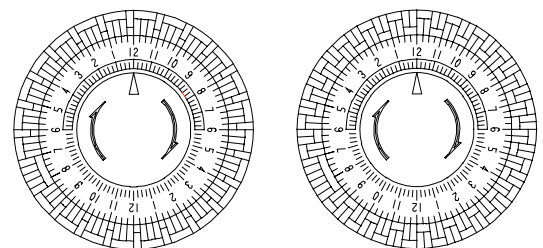

Figure 1: Defrost timer adjustment
3. The timer is fastened to the base at the front of the unit. Every fourth peg around the dial is pushed out from the dial center except one section with 5 pegs out in a row. See figure 1. Each fourth "out" peg represents 15 minutes of compressor "off" time during every hour that the unit is in the defrost cycle.
4. To improve performance below 50°F, the compressor "off" time must be increased to 30 minutes per hour to allow the frost to completely melt. To do this, push the pegs out from the dial center so that the pegs alternate with 2 toward the center, then 2 out from the center, all the way around the dial except for the section now with 6 pegs out in a row (see Fig. 1).